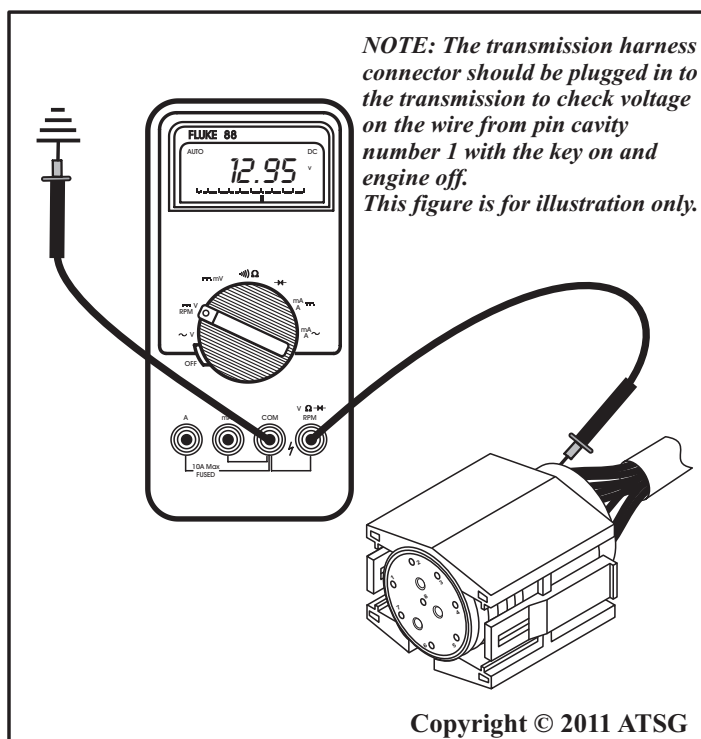

Figure 54
- (1) If the vehicle is stuck in third gear, **with no** upshifts to fourth gear, turn the engine off and unplug the transmission harness connector.
- (a) Refer to the face view of the transmission harness connector as shown in figure 23 to aid in identifying the wire from pin cavity No. 1. Plug the connector back into the trans and back probe the wire from pin cavity number 1 in the vehicle harness connector. (*Failure to re connect the harness connector to the trans will set a fault code and may not produce the desired result.*) Turn the **key on** with the **engine off** to check for battery voltage, as shown in Figure 54. If 0 volts is seen, you have one of the following conditions: